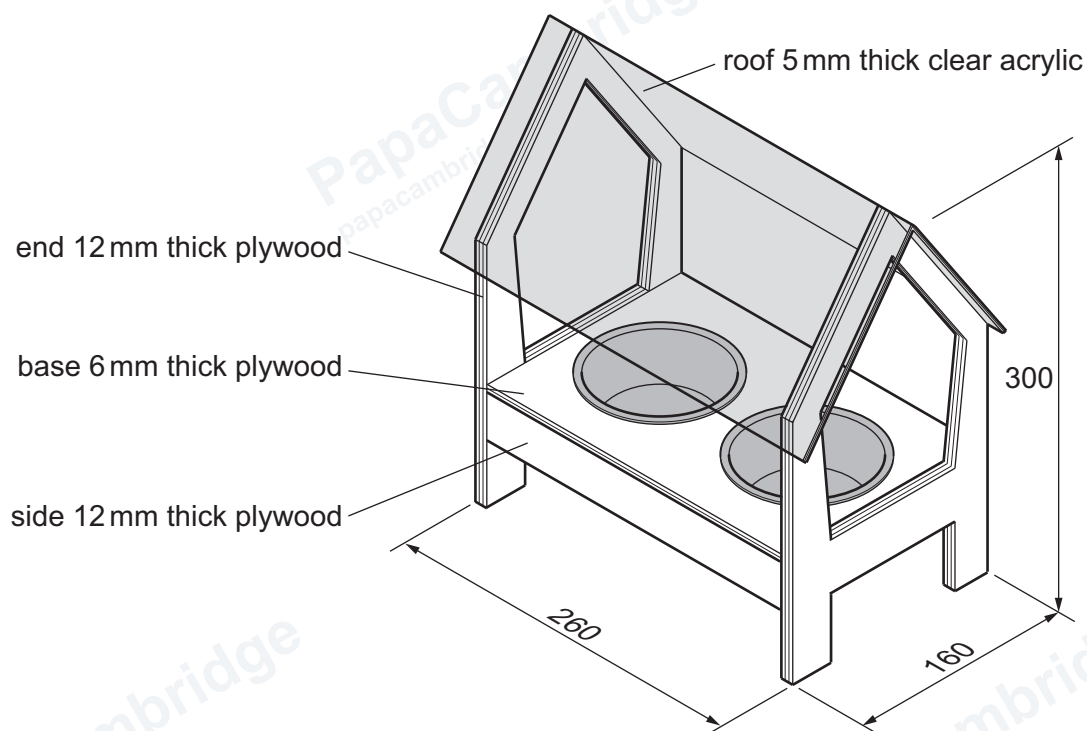
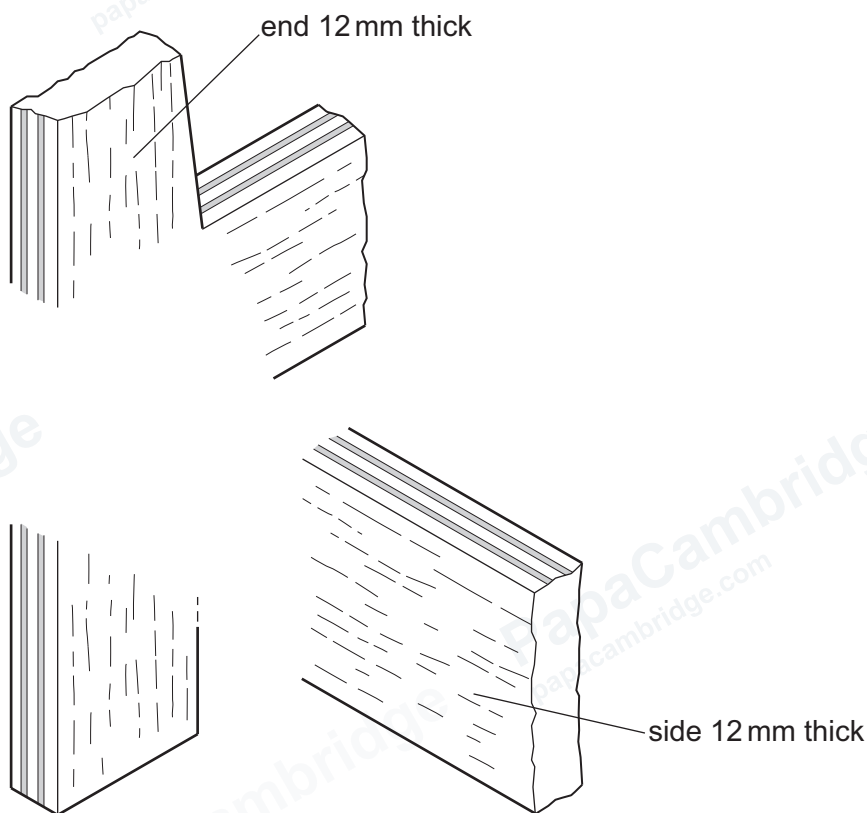

Figure 12.1
Figure 12.3
- 12 Figure 12.1 shows a bird feeder that will be fitted on the top of a fence. Two plastic bowls fit into the base of the feeder.
- (c) Figure 12.3 shows where one end and one side of the bird feeder in Figure 12.1 will be joined together.
Add sketches and notes to Figure 12.3 to show how the side could be joined to the end.